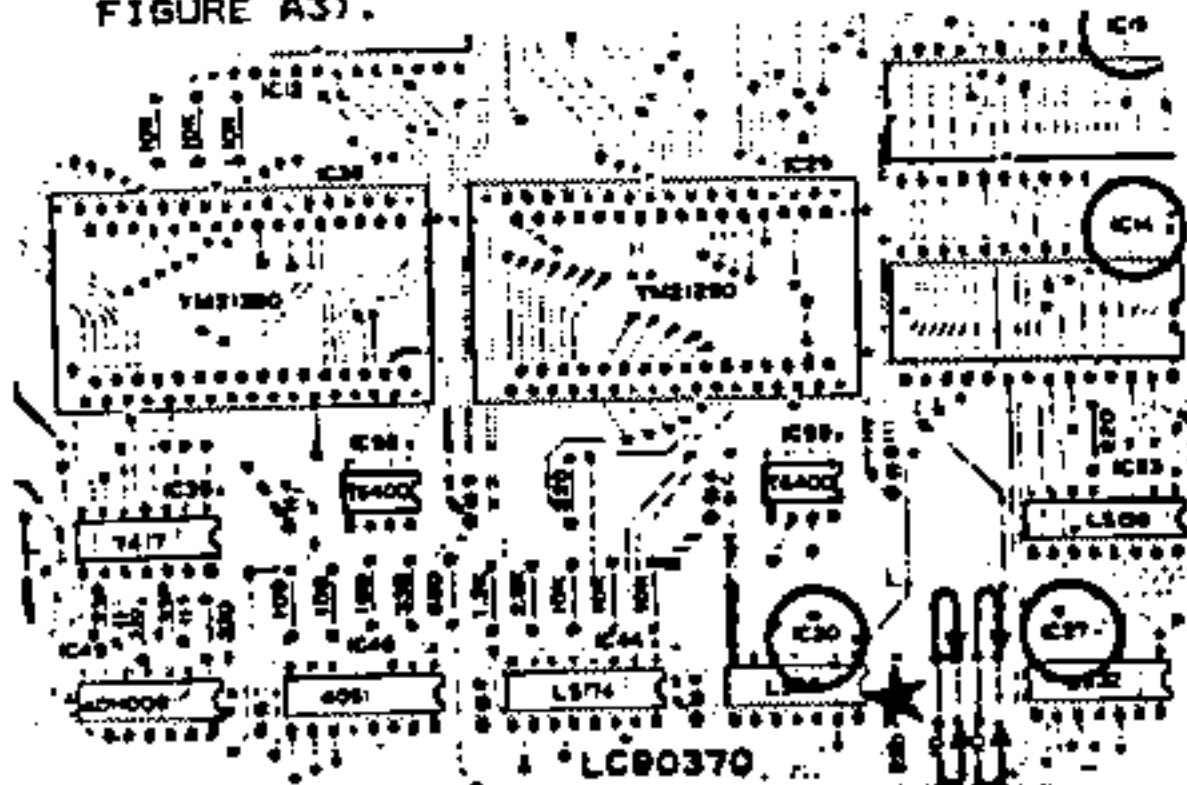

FIGURE A3
- STEP 5: Locate the two 10 OHM RESISTORS between IC38 and IC27 that are shown in FIGURE A3. Using your SOLDER IRON, unsolder and move both leads of each resistor over one eyelet to the right (see FIGURE A3).